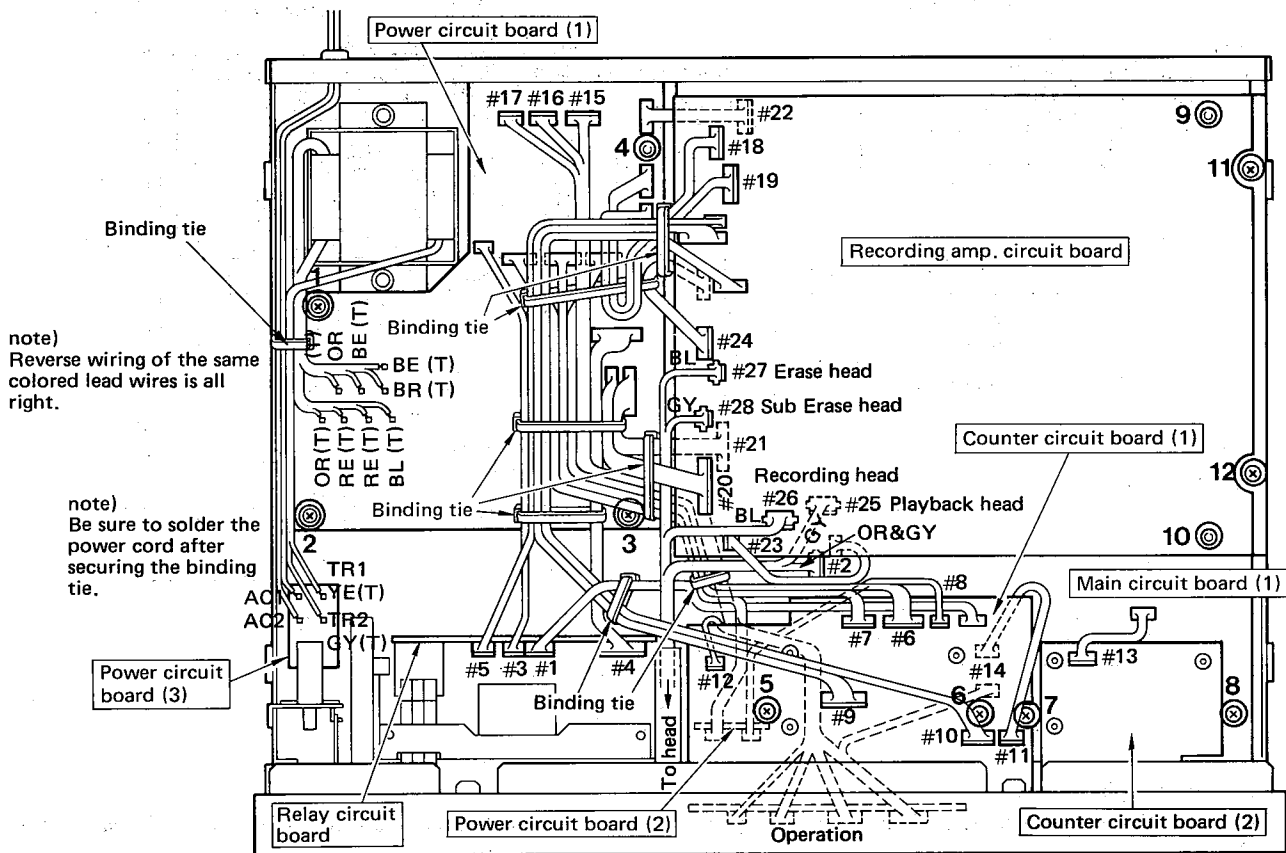
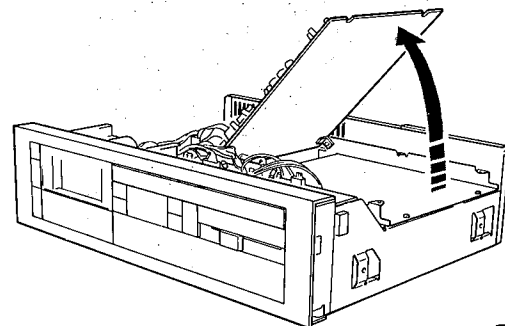

Fig. 15
Fig. 16
- b. Disconnect the connectors (#1, #3, #4, #5) connected to the relay circuit board. (Refer to fig. 15)
- c. Disconnect the head lead wire connectors (#25, #26, #27, #28). (Refer to fig. 15)
1. Counter circuit board (1) removal
Remove screws ⑤ and ⑥ in fig. 15 and then pull out the counter circuit board (1) by sliding it backward.
2. Counter circuit board (2) removal
Remove plastic rivets ⑨ and ⑩ in fig. 15 and then rotate the recording amp. circuit board upward. (Refer to fig. 16)
Remove screws ⑪ and ⑫ (don't remove plastic rivets ⑨ and ⑩) in fig. 15 and then rotate the recording amp. unit upward.